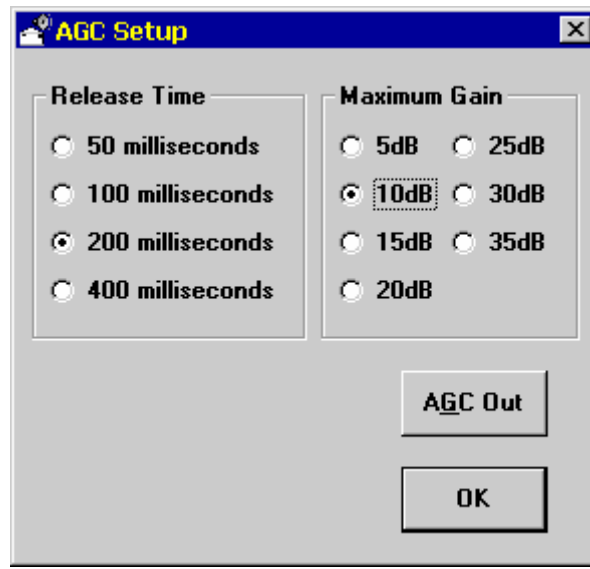

Figure 3-6 Tutorial AGC Setup Window
17. Click on the **AGC Setup** button in the Output Levels block. The following window (Figure 3-6) will appear:
Use the mouse to set the Release Time to 200 milliseconds and the Maximum Gain to 20dB, as shown in Figure 3-6. Make sure the AGC button indicates **AGC Out**. Click on **OK** when done.